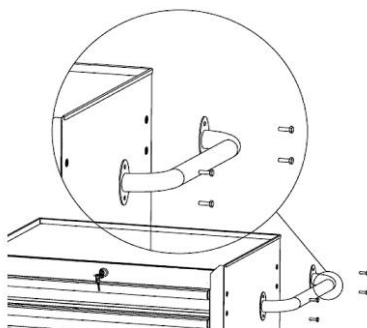
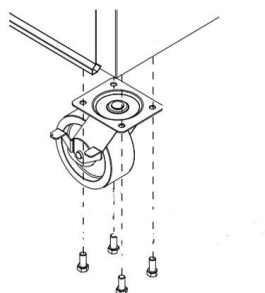

Fig. 1
Fig. 2
3. Using the lock (B), ensure all drawers (C) are secured.
4. Attach handle to either side of the cabinet using the spring washers (#15), flat washers (#16) and bolts (#14) provided (Fig. 1).
5. Place the two swivel casters (E) over top of the holes on the handle side of the cabinet.
6. Secure in place using the bolts (#11) provided (Fig. 2).
7. Place the two fixed casters (D) over top of the holes on the non-handle side of the cabinet.
8. Secure in place using the bolts (#11) provided (Fig. 2)